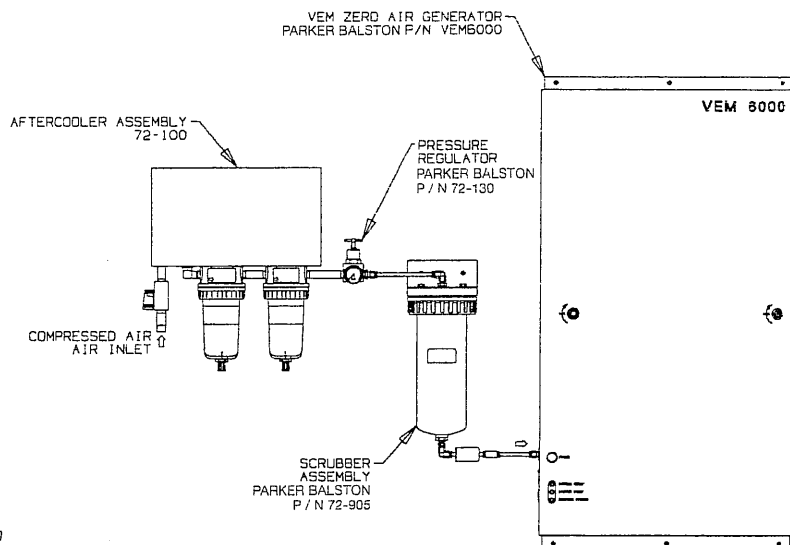

Figure 4 - Recommended Installation
At a minimum, the user should install a manual shutoff valve and pressure regulator (P/N 72-130) upstream from the generator inlet flow port (see Figure 4). The valve can be used for isolating the compressed air from the generator during routine maintenance or troubleshooting activities. The pressure regulator is needed to ensure that the inlet air pressure is set between 60 and 90 psig (70 psig being the optimum) for the generator.
**NOTE:** If the compressed air supply has a pressure dewpoint which is less than the ambient temperature, the generator can function in ambient temperatures as low as 0°F (-18°C) and as high as 110°F (43°C) and with a relative humidity of 100%. To lower the pressure dewpoint it is recommended that either a refrigerant dryer or a Parker Balston Aftercooler Assembly (P/N 72-100) be installed upstream from the generator (see Figure 4).
The compressed air source should be as close to instrument quality as possible (see note in Location section above), and relatively free of oils and particulate matter. Connect the air supply to the 1/8" NPT port marked INLET, located on the left side of the generator. If the compressed air supply for the generator contains excess water, oil or particulate matter, install either a refrigerant dryer or a Parker Balston Aftercooler Assembly (P/N 72-100) upstream from the generator. Figure 4 shows a recommended installation configuration of the system using the Parker Balston Aftercooler Assembly. The assembly includes two coalescing filters that help remove excess water, oil or particulate matter from the compressed air line.
If possible, the inlet feed to the air compressor should be external to the facility. If venting is not possible, and chlorinated solvents are used, contact Parker Balston to order a special Scrubber Assembly (P/N 72-905), used to remove volatile organic carbons and chlorinated hydrocarbons. See Figure 4 for installation location.
- 1 Close the (customer installed) inlet air valve between the compressor and the generator (see Figure 4). Allow the generator to run for 5 minutes to depressurize the unit upstream from the check valve.